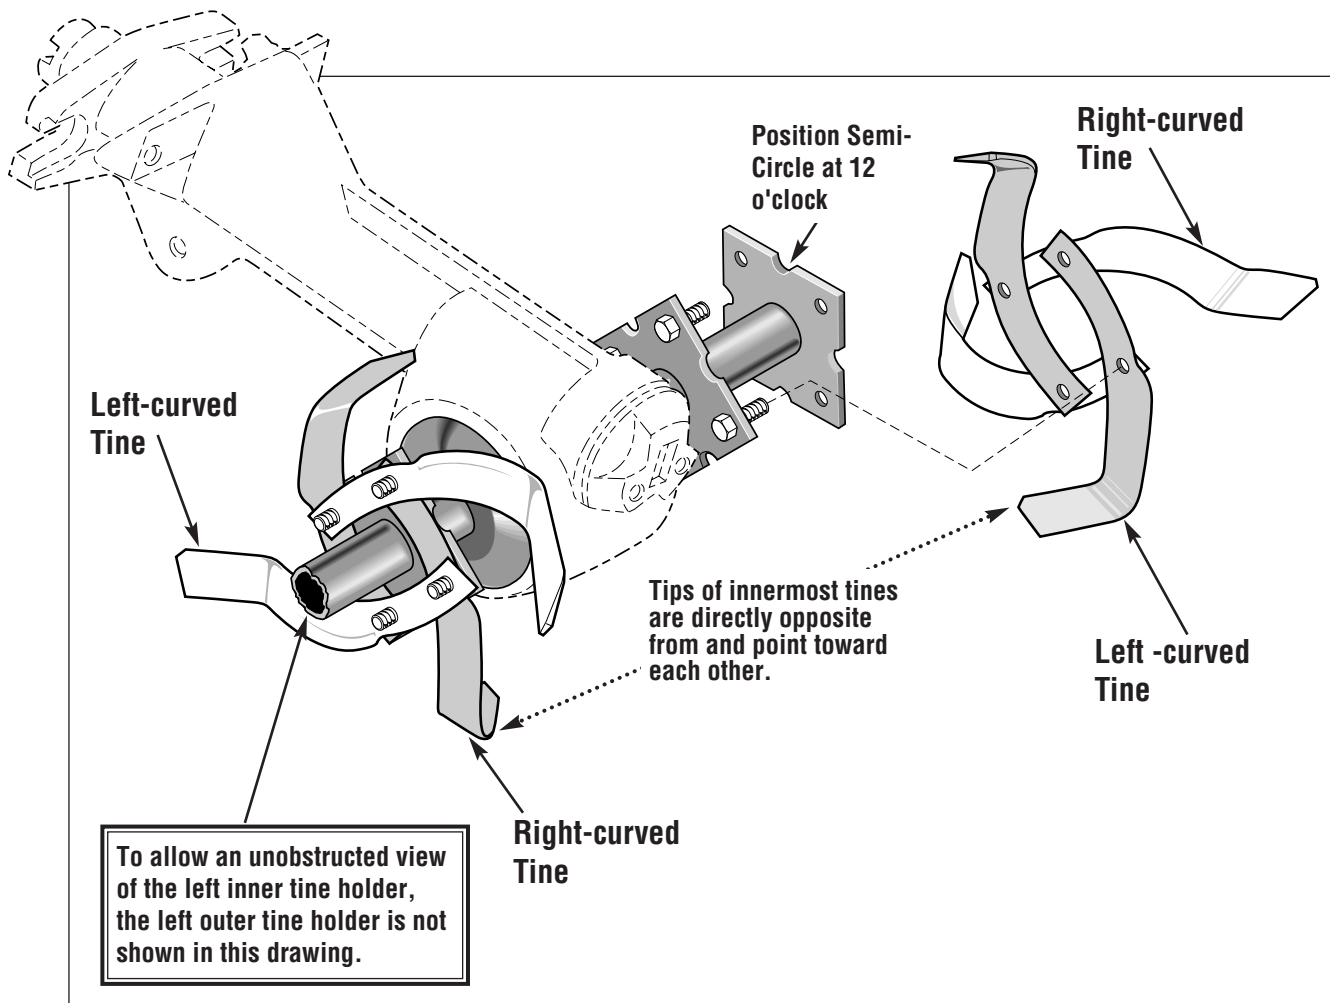

Figure 8: Installing tines on inner holders.
Rotate the tine holders and shaft (by hand) until any one of the semi-circles on the *outer* mounting plates of the holders is at the 12 o'clock position in relation to the ground. See Figure 8 on Page 5.
A. Place two *right-curved* tines (shown shaded in Figure 8) *opposite* each other on the previously installed bolts. Make sure that the tines are positioned as follows:
B. Place two *left-curved* tines (unshaded in Figure 8) *opposite* each other on the bolts, overlapping the tines installed in Step 2-A. Make sure that the tines are positioned as follows:
A. Place two *left-curved* tines (shown shaded in Figure 8) *opposite* each other on the previously installed bolts. Make sure that the tines are positioned as follows:
- ✓ The tips of these two tines should be directly opposite the tips of the two right-curved tines installed on the left inner holder in Step 2-A (see Figure 8).
B. Place two *right-curved* tines (unshaded in Figure 8) *opposite* each other on the bolts, overlapping the tines installed in Step 3-A. Make sure that the tines are positioned as follows: